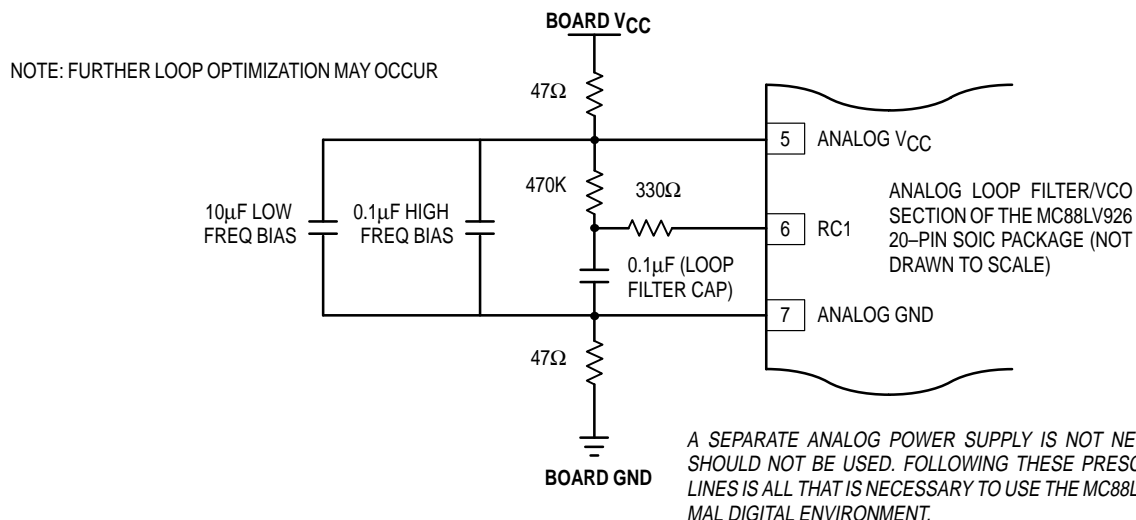

Figure 6. Recommended Loop Filter and Analog Isolation Scheme for the MC88LV926
- Figure 6. shows a loop filter and analog isolation scheme which will be effective in most applications. The following guidelines should be followed to ensure stable and jitter-free operation:
- purpose of the bypass filtering scheme shown in Figure 6. is to give the 88LV926 additional protection from the power supply and ground plane transients that can occur in a high frequency, high speed digital system.
- In addition to the bypass capacitors used in the analog filter of Figure 6., there should be a 0.1 μF bypass capacitor between each of the other (digital) four V_{CC} pins and the board ground plane. This will reduce output switching noise caused by the 88LV926 outputs, in addition to reducing potential for noise in the 'analog' section of the chip. These bypass capacitors should also be tied as close to the 88LV926 package as possible.